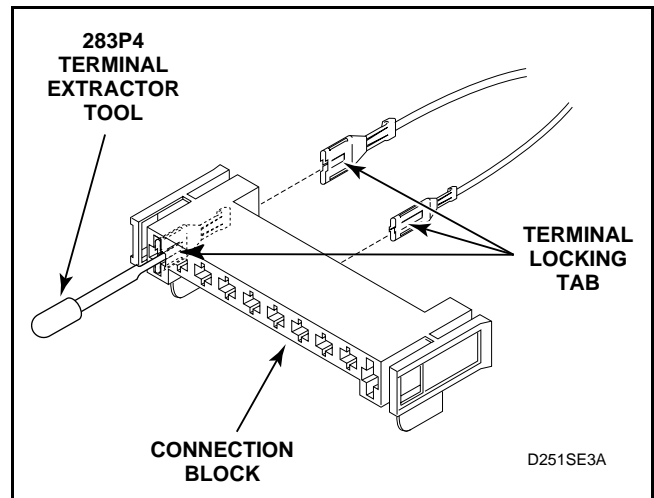

Figure 47
- (1.) Insert the tool into the block on the back of the terminal being removed. See *Figure 47*.
- (2.) Apply tool pressure to compress the terminal locking tab on terminal and force the terminal and wire out back side of connection block. See *Figure 47*.